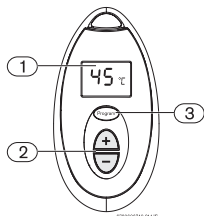

Fig. 9 Memorising water temperature
- ▶ Press the buttons  or  on the remote control (Fig. 9, pos. 2), until the required temperature (in degrees centigrade) appears on the remote control display (Fig. 9, pos. 1).
control (Fig. 9, pos. 3) pressed for 3 seconds.